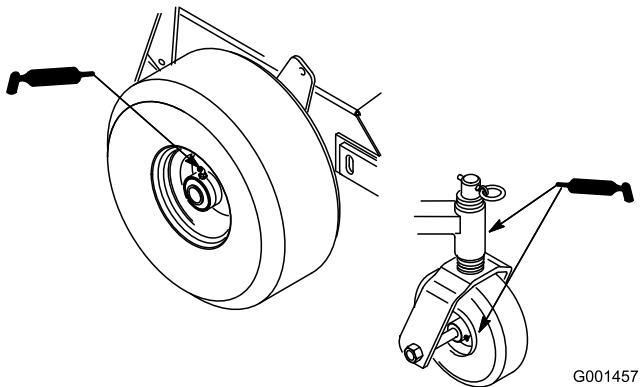

Figure 23
1. Lubricate the front-wheel bearings and front spindles (Figure 23).
2. Lubricate the drive-wheel bearings (Figure 23).